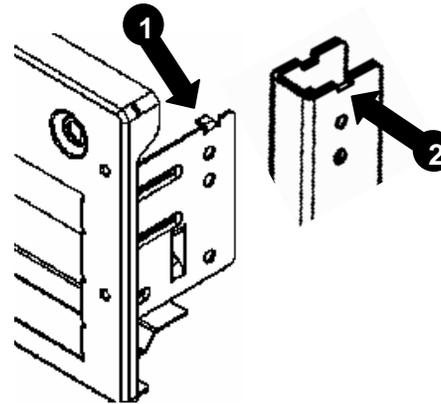

Figure 12 Each side of the user interface bracket has a tab ❶ that rests in a slot on the chassis u-profile ❷.
3. Grasp one corner of the interface panel and lift upward, then pull it toward you (see Figure 12).